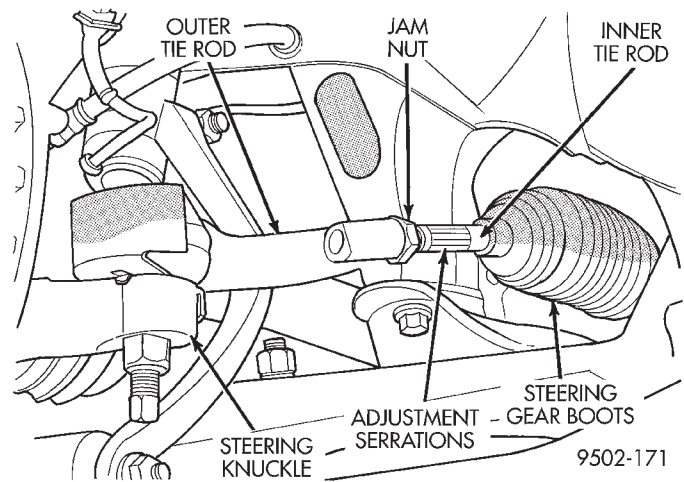

Fig. 4 Inner To Outer Tie Rod Jam Nut
(7) Loosen front inner to outer tie rod end jam nuts (Fig. 4). Grasp inner tie rods at serrations (Fig. 4) and rotate inner tie rods of steering gear to set front Toe to the preferred Toe specification. See Alignment Specifications in this group of the service manual for preferred specification
(8) Tighten tie rod locknuts (Fig. 4) to 61 N·m (45 ft. lbs.) torque.
(9) Adjust steering gear to tie rod boots (Fig. 4) at inner tie rod.
(10) Remove steering wheel clamp.